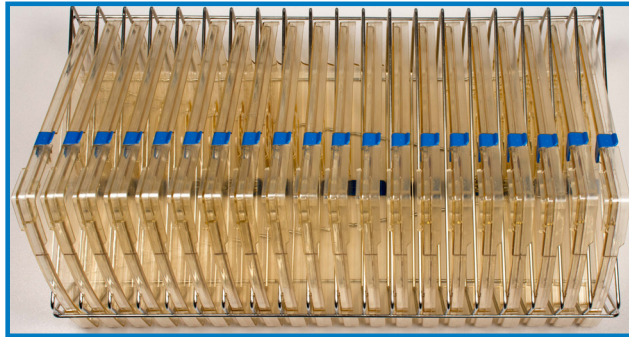

Figure 6
1. Load cage tops sideways into the cage top holder (Figure 6).